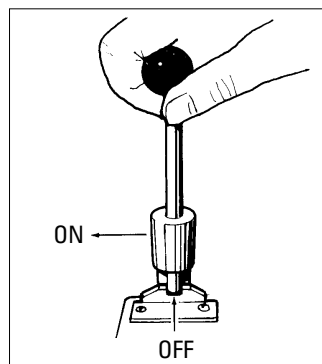

Figure 28 - Engage automatic cross feed
**18.** Engage the automatic cross feed (figure 28) by moving the lever to the rear of the lathe. The cross feed will stop automatically when the cutting tools have moved all the way across the face of the rotor.